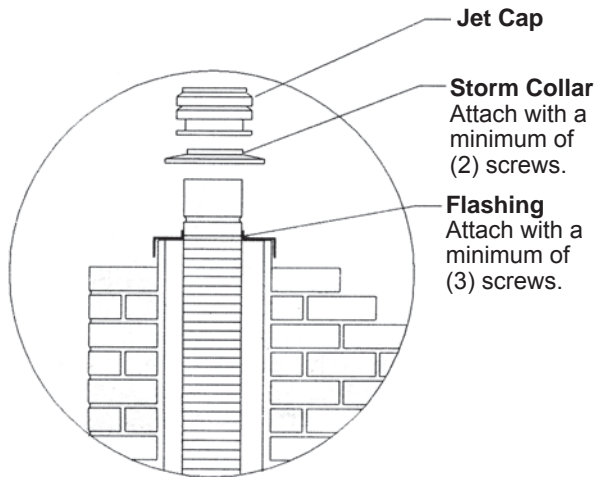

FIG. 5
Step 10. Apply a bead of quality silicone to bottom edge of the storm collar. Then slide the storm collar over top of the termination fitting pressing into place on to the top of the flashing (see FIG. 5). Using two (2) evenly spaced self tapping sheet metal screws, pierce through the top flange of the storm collar and into the termination fitting, then caulk the top of the storm collar. Finally snap the Jet Cap properly into place.
- Step 9. Figure the length down from the top of the clay tile liner to the approximate point of the offset and use standard lengths of "B" - Vent i.e. (5', 3', 2' & 1') to accommodate this portion of the system. You need enough overall length to end up with at least 5" over top of the clay tile liner (reference FIG. 5, on page 5, showing the termination of the "ALL FLEXJET SYSTEM"). However a longer length above the point where the flashing will be installed is also acceptable. Up to 2 1/2 feet if a 5 foot section is being used.